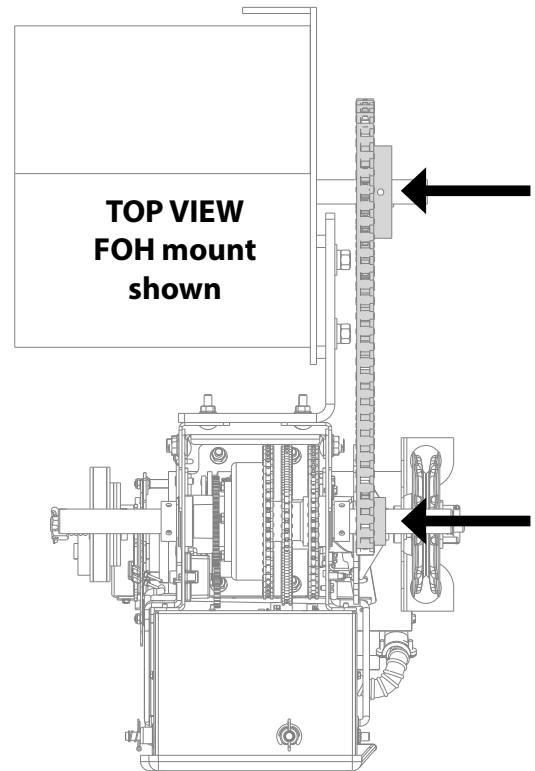

Fig. 6
10. Move and align sprockets and chain as close to the operator as possible. Fig. 6